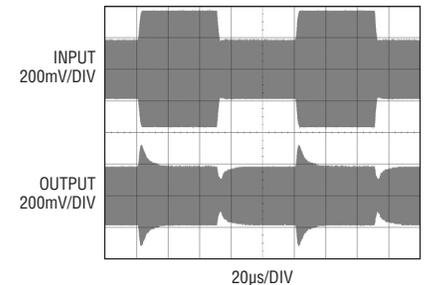
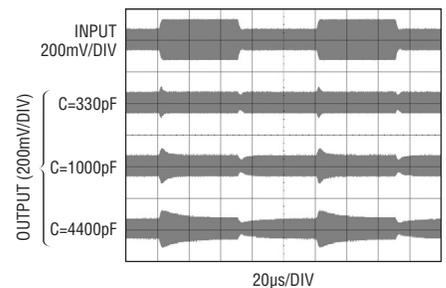

Figure 7. Measured analog control loop circuit response to 6dB step changes in input signal amplitude for $C_F = 1000pF$
Figure 8. Measured analog control loop response to 6dB step changes in input signal amplitude over a range of C_F values
6. The loop gain of 100 provides an AGC accuracy of a few tenths of a dB, and the dominant pole compensation from $C_F = 1000\text{pF}$ provides a well-damped response time of 15 μs shown in Figure 7. Adjusting C_F over a 13:1 range produces a similar proportional range in settling time (see Figure 8).